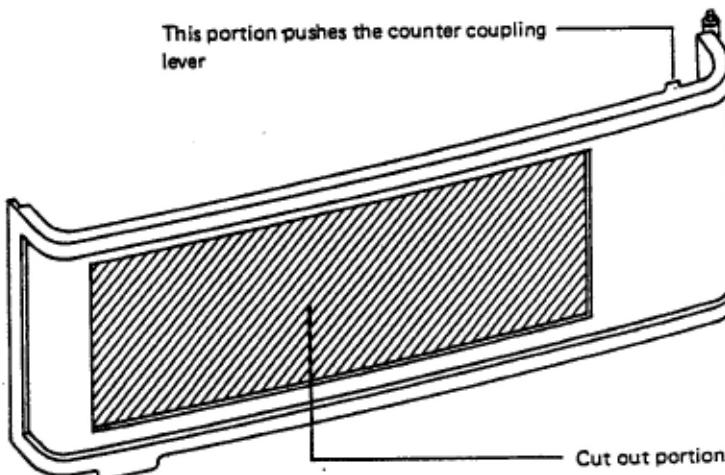

Fig. 68
### (1) The Modified Back Cover. (fig.68)
### (4) AUTOMATIC EXPOSURE ADJUSTMENT. (IMPORTANT — See Fig. 68.)